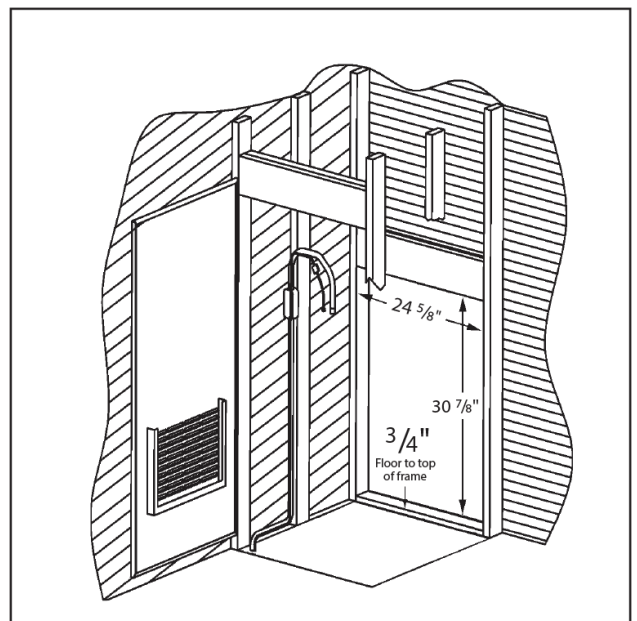
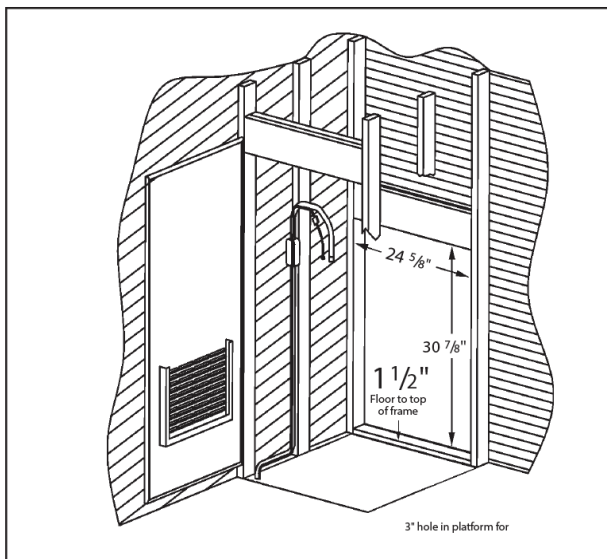

Figure 3
**Figure 4**
**NOTE:** Determine what model is to be installed. All 9-18k AVC 9-12k AVH units must follow the dimensions in Figure 3. All 18-24k AVH & 24k AVC units must follow the dimensions in Figure 4.